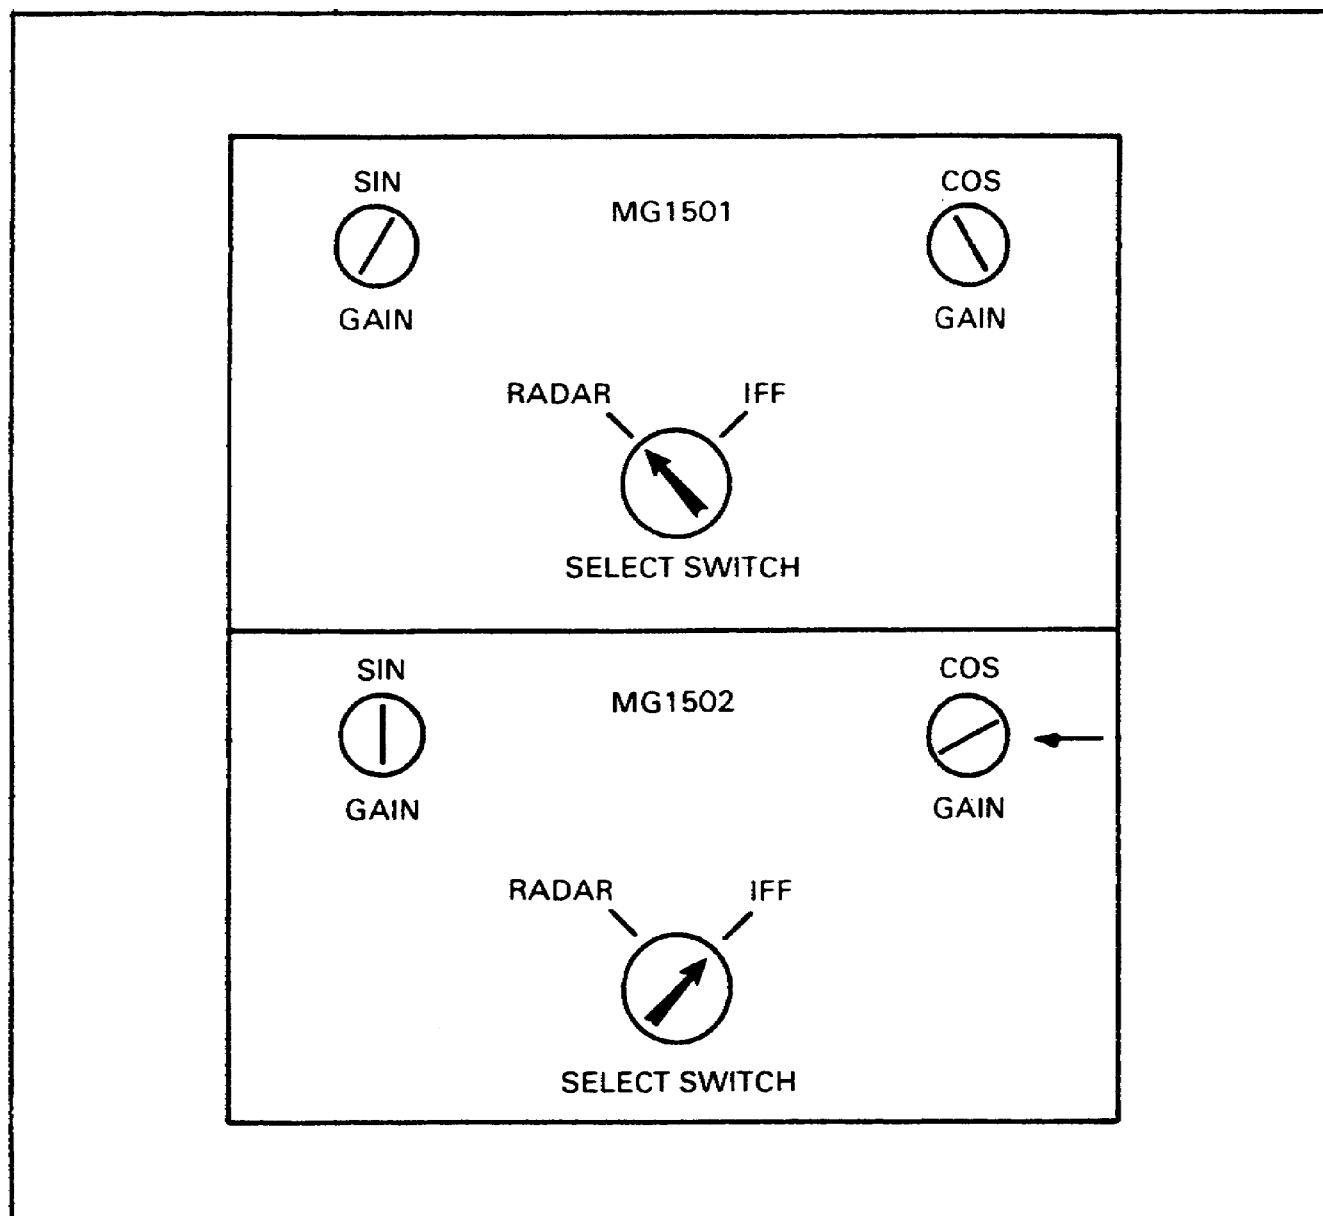

Figure 23. Adjustment of cosine gain control on MG-1502.
p. Have your assistant rotate the IFF antenna for a maximum voltage indication on the meter. Adjust cos gain control on IFF sine-cosine converter MG-1502 for a ± 36 V DC. (See Figure 23.) Record reading _____.